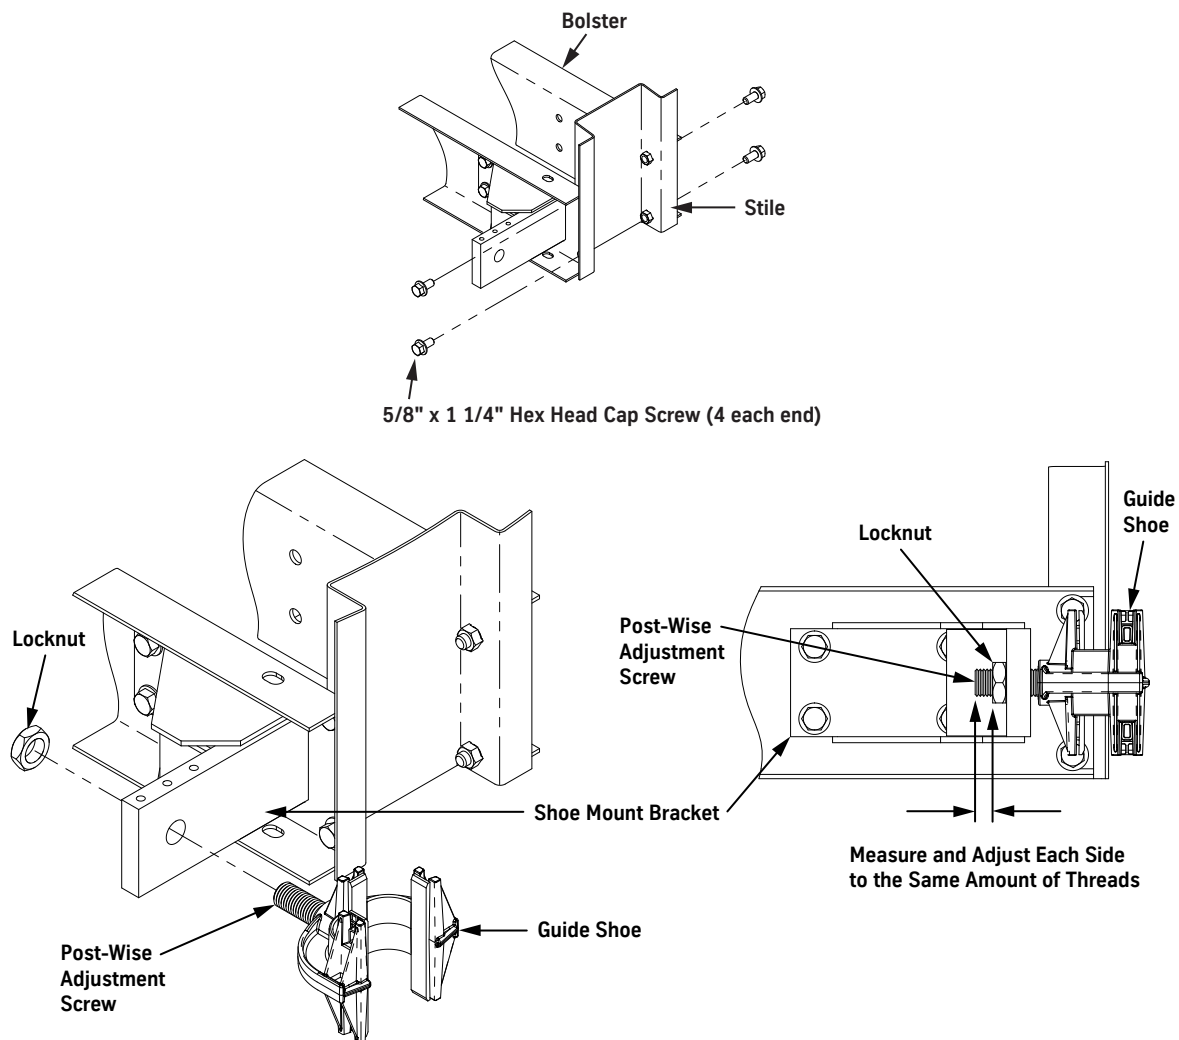

Figure 42 - Install Bolster Assembly (top) and Bottom Guide Shoe
1. Snugly fasten the bolster assembly to the stiles. See Figure 42 for all steps in this procedure.